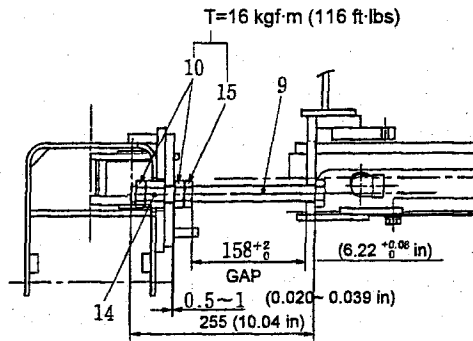

Fig. 10-9 Installing stopper bolts (9)
(3) Check the installing length of stopper bolts for both left and right. (Refer to Fig. 10-9)